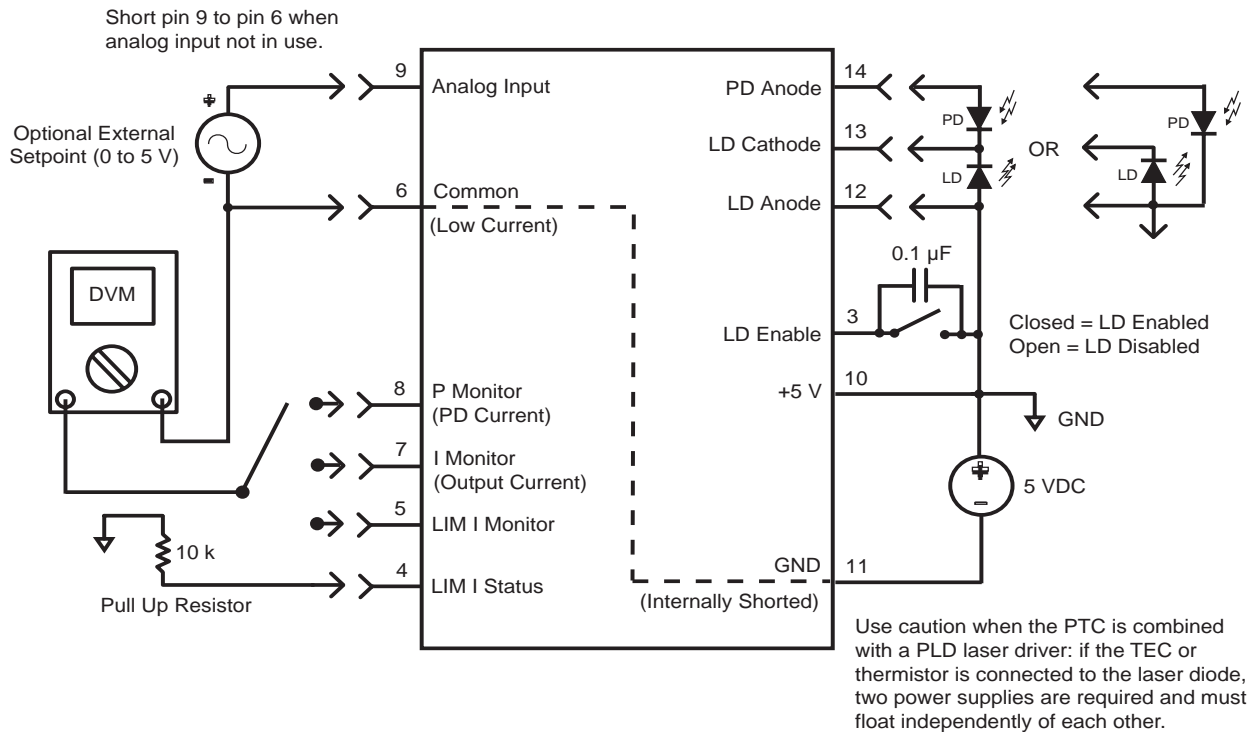

Figure 10. Type A & B Laser Diode, Negative Power Supply Operation
- 8 to 12 VDC power supply rated for 50 – 250 mA, plus 1.1-times the maximum laser diode drive current; power regulation circuitry is also required (see **Figure 10**)
Type A & B Laser Diode, Negative Supply Operation	Figure 10